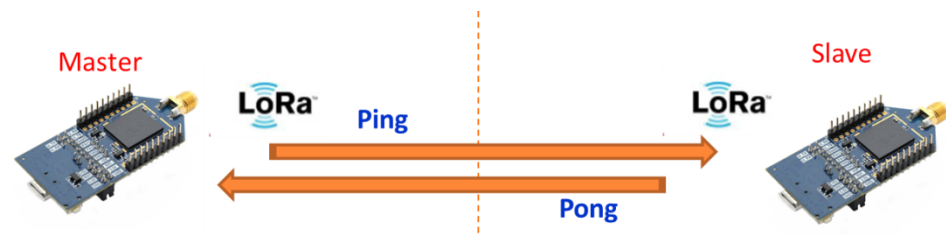

Figure 5.4
- c. While Master and Slave roles of two devices confirmed, master mode device could send “Ping” signal and waits to receive “Pong” signal; slave mode device could send “Pong” signal after it receives “Ping” signal as Figure 5.4.